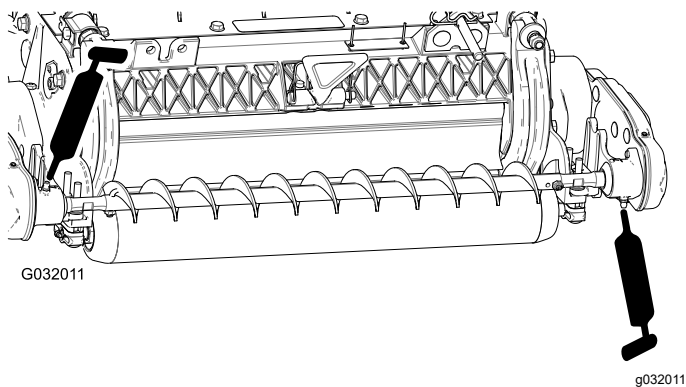

Figure 19
4. Lubricate the grease fittings on each of the roller-brush bearing housings with No. 2 lithium grease (Figure 19). Wipe off any excess grease, especially around the excluder seals.